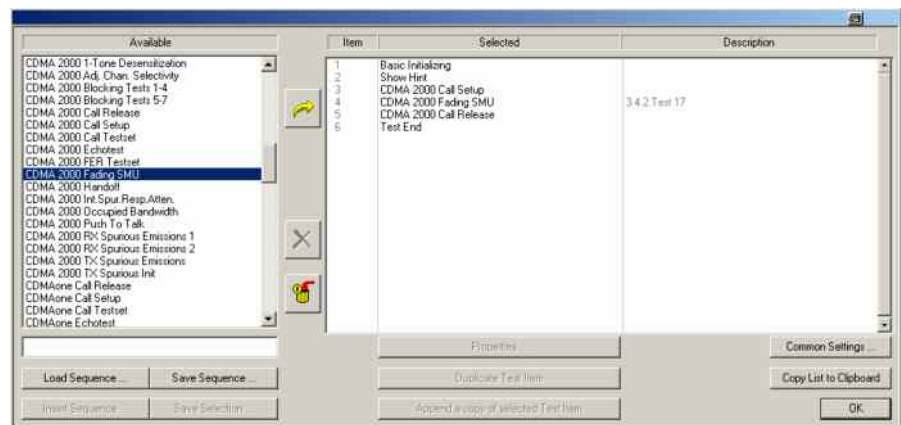

Fig. 5_6: Available and selected test items (test sequence) for the *demodulation of forward fundamental channel in multipath fading channel* test.
- 1) Connect instruments and mobile station as shown in Fig. 5_3.